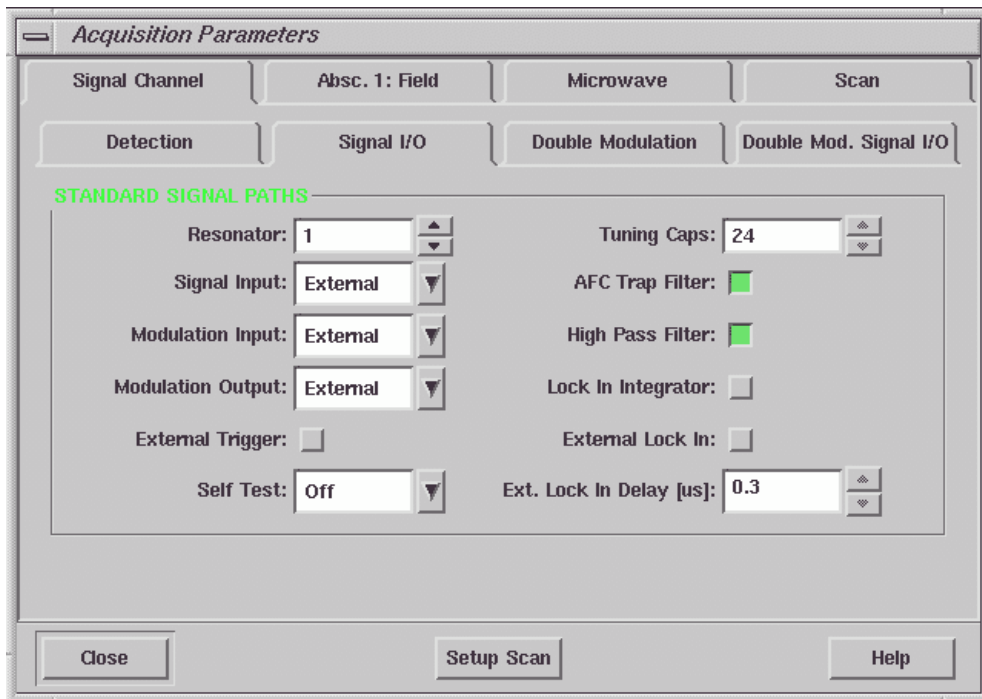

Figure 14-22 Enabling external inputs and outputs in Signal I/O.
6. **Set up the Signal I/O.** Click the Signal I/O tab. Select External for Signal Input, Modulation Input, and Modulation Output. (See Figure 14-22.)